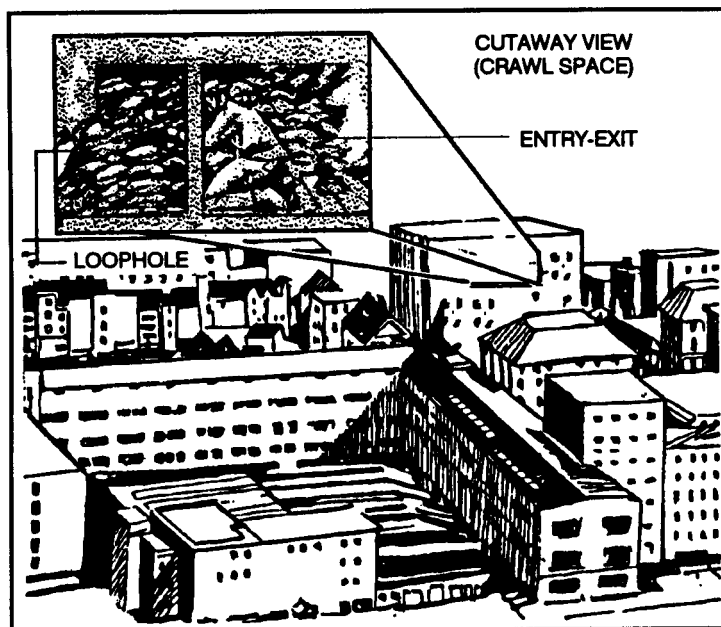

Figure 4-14. Crawl space hide position.
(2) **Crawl space hide position.** The sniper team builds a crawl space hide position in the space between floors in multistory buildings (Figure 4-14). Loopholes are difficult to construct, but a damaged building helps considerably. Escape routes can be holes knocked into the floor or ceiling. Carpet or furniture placed over escape holes or replaced ceiling tiles will conceal them until needed.